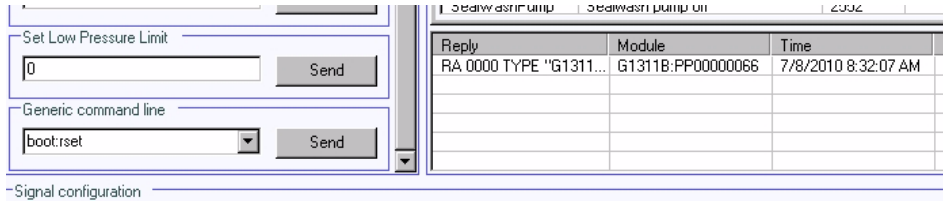

Figure 9 Command Line and Reply Window in Agilent LabAdvisor (FSE Version only)
- 5 Re-boot the module so that the change becomes active. You may use the command **BOOT:RSET** from the command line (see Figure 9) or power cycle the module. After re-boot and reconnect the module should now be listed as G1311A.
- 5 Re-boot the module so that the change becomes active. You may use the command **BOOT:RSET** from the command line (see Figure 9 on page 42) or power cycle the module. After re-boot and reconnect the module should now be listed as G1311B.